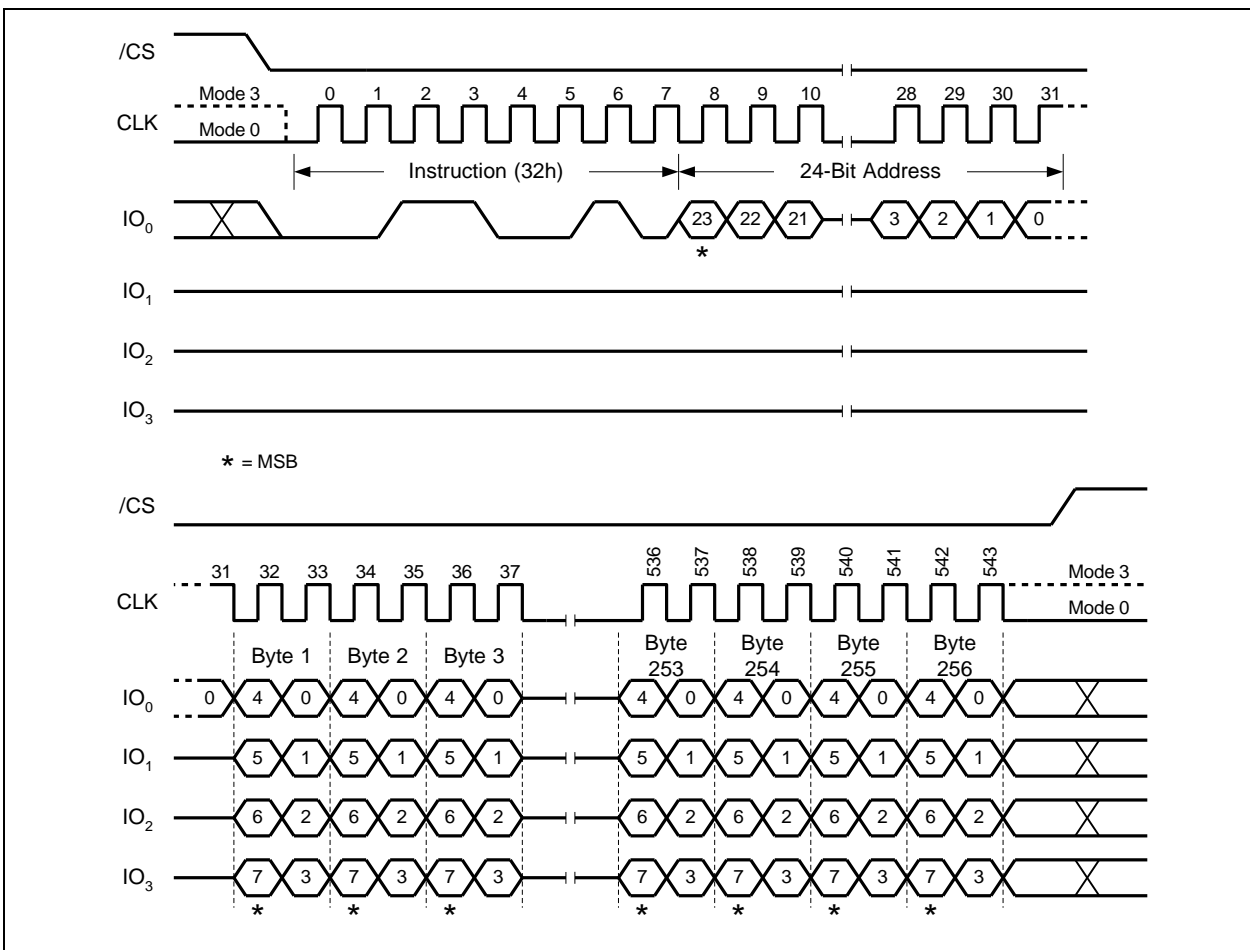

Figure 30. Quad Input Page Program Command (SPI Mode only)
To use Quad Page Program the Quad Enable (QE) bit in Status Register-2 must be set to 1. A Write Enable command must be executed before the device will accept the Quad Page Program command (Status Register-1, WEL=1). The command is initiated by driving the /CS pin low then shifting the command code “32h” followed by a 24-bit address (A23-A0) and at least one data byte, into the IO pins. The /CS pin must be held low for the entire length of the command while data is being sent to the device. All other functions of Quad Page Program are identical to standard Page Program. The Quad Page Program command sequence is shown in Figure 30.